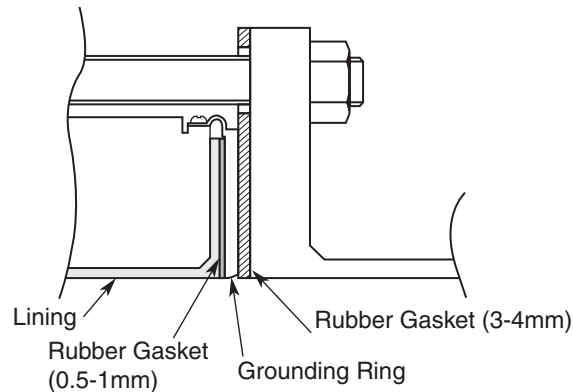

Figure 19. Installation on PVC Pipe with 316 ss Grounding Ring (with Rubber Gasket)
If you install the flowtube at a lower torque level using rubber gaskets, you must use gaskets with the internal and external diameters shown in Table 5. and Table 6. for the respective pipe size. Depending on the grounding ring material, two gaskets of different thicknesses may be required. (See Figures 19 and 22.)
- Use this method to install the flowtube using a low fastening torque and rubber gaskets. Remove the grounding ring from the flowtube, insert a rubber gasket (0.5 to 1.0 mm thick), then reinsert the grounding ring on top of the rubber gasket. With the rubber gasket (3 to 4 mm) in the position shown in Figure 19, attach the flowtube to the pipe. Fasten the bolts with a torque that provides a leakproof joint. In this case, the two kinds of rubber gaskets must be made of the same material.